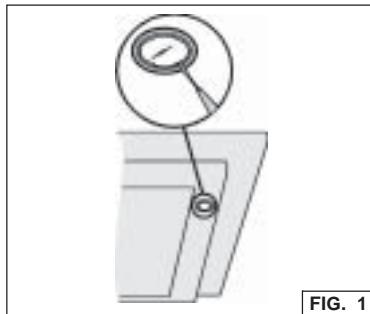

FIG. 1
1. Open the cover by prying from the proper slots. - DO NOT ROTATE. **CAUTION: BULB MAY BE HOT!** Fig. 1